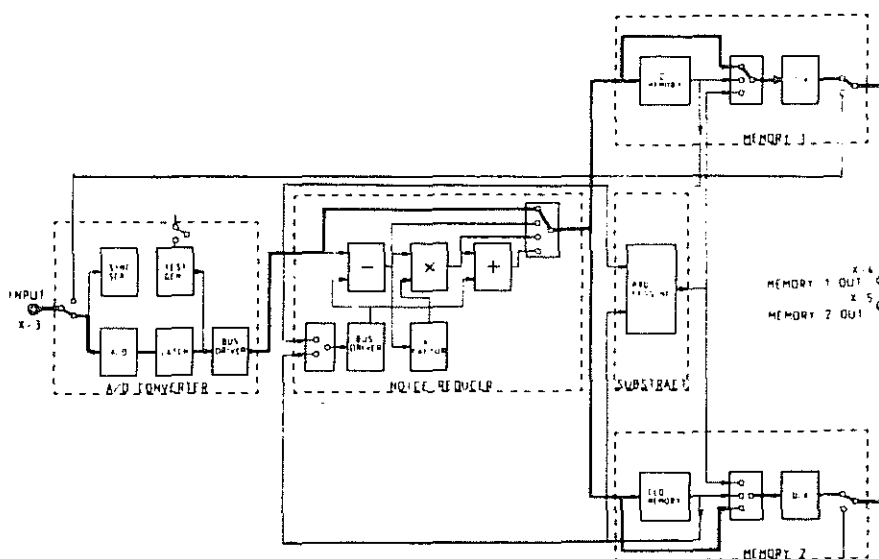

Figure 4.2 : Digital bypass.
## (3) Digital bypass (fig. 4.2).